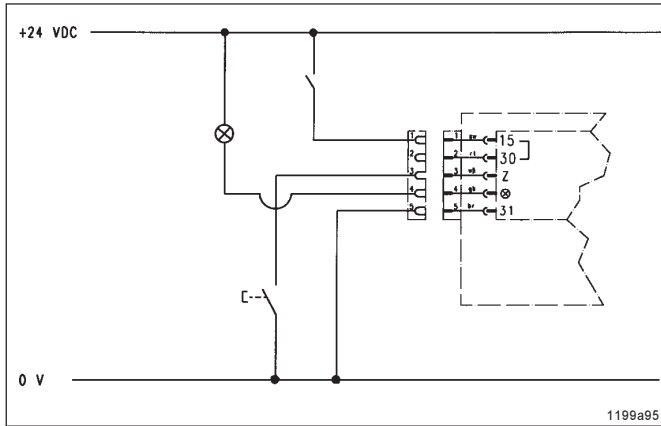

Fig. 1 - Machine contact
- When the **jumper is plugged on 30/15** the connections **15 and 30 are connected (bridged)** within the printed circuit board. Refer to Fig. 1.